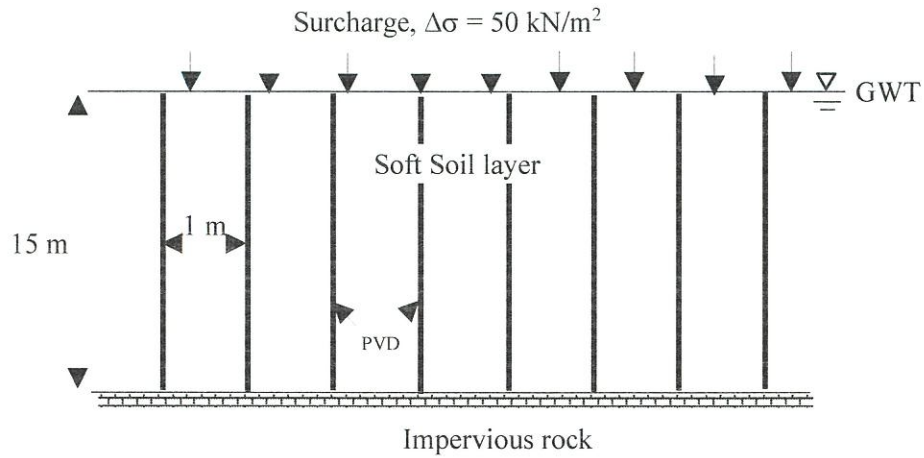

FIGURE Q1(b): Soil profile of soft soil improved PVD
- Q1** (a) The large building consists of five basements with an excavation depth of 15.8 m, which will be constructed on marine clay. The basement construction is only five (5) meters away from two historical buildings. Proposed the monitoring instrumentation and its location to monitor the behaviour of the diaphragm wall and surrounding historical buildings. (11 marks)
- (b) An embankment will be constructed on very soft soil as shown in **Figure Q1(b)**. The details pertaining to a project is shown in **Table 1**. The selected PVDs have the cross sectional dimensions of 100 mm and 4 mm. The smear zone is assume to be 1.5 times the equivalent diameter of PVD. Assume that the PVD will be installed in square pattern.